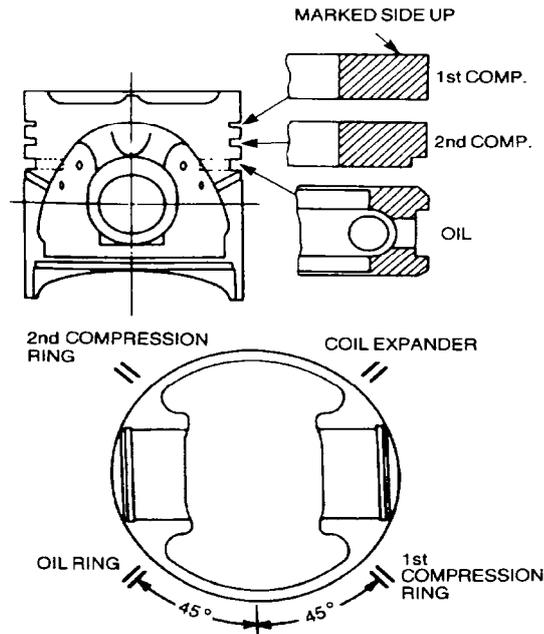

**Figure 45 Checking the Piston Ring Gap**
- v. Check the piston ring gap by installing the piston rings in the cylinders and measuring the gap with feeler gauges (Figure 45). Refer to Table 7 for the correct ring gap limits.